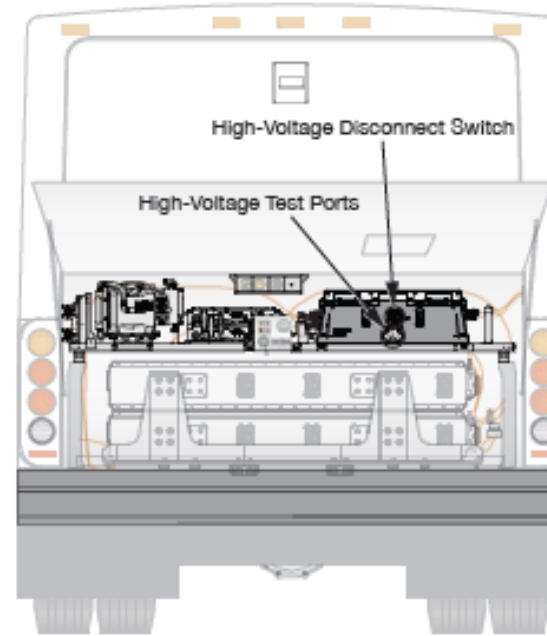

Figure 1-9, High-Voltage DC Junction Box Location
- Open the rear PTC door to gain access to the HV DC junction box (Figure 1-9).